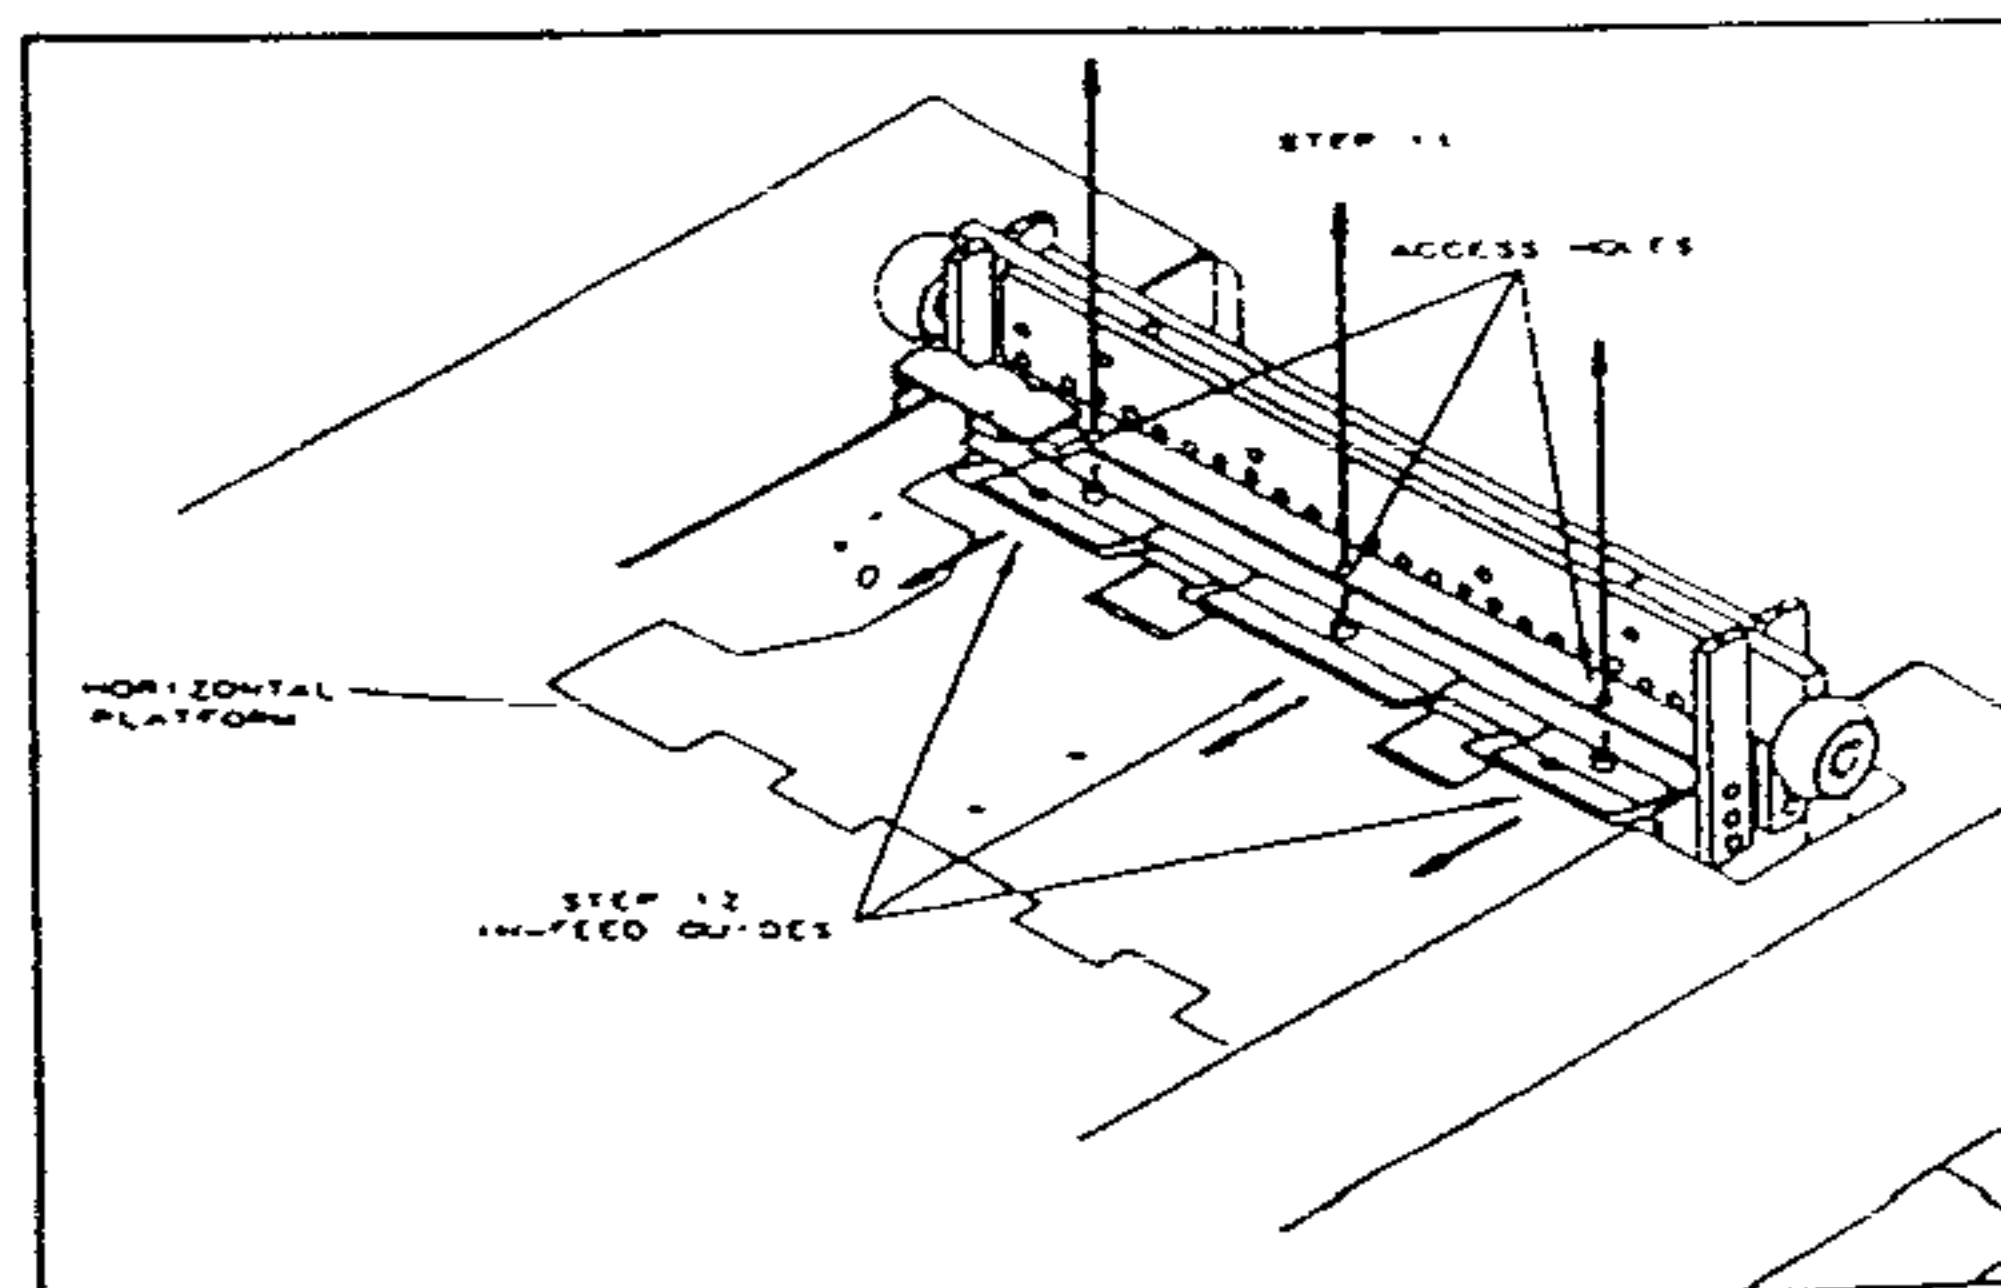

Figure 17
11. Remove the one (1) screw with washer from each of the three (3) paper in-feed guides. Insert the Allen wrench through the access holes in the upper guide plate over each screw. After the screw near the photo sensor has been loosened use pliers to remove it. (See Figure 17)
12. Note the position and orientation of each in-feed guide for later re-installation, then remove each in-feed guide. (See Figure 17)